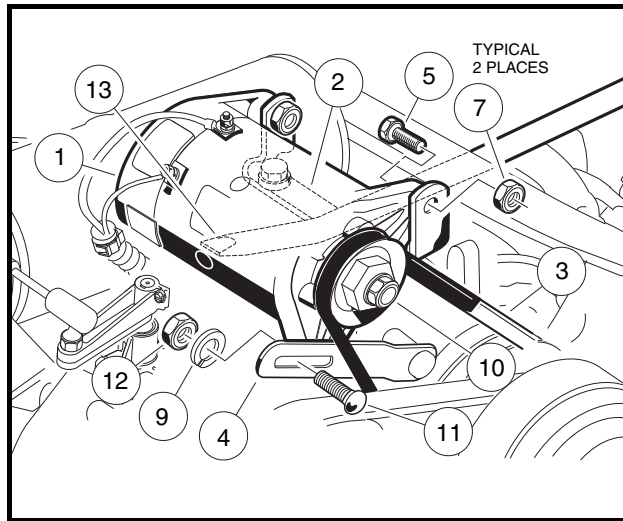

Figure 12-13 Starter/Generator Assembly
2. Install two 3/8-inch hex-head pivot bolts (5) into the mounting bracket with the heads of the bolts facing towards the driver side of the vehicle. Position the starter/generator in the mounting bracket so that the bolts will go through the starter/generator before going through the bracket. Install a locknut (7) onto each bolt and tighten to finger-tight (**Figure 12-13, Page 12-10**).
3. Install the adjustment bolt (11) through the adjusting bracket (4) and then through the starter/generator. Install a lockwasher (9) and 5/16-inch nut (12) onto the end of the adjustment bolt (11) and tighten to finger-tight (**Figure 12-13, Page 12-10**).
4. Install the belt (3), then tighten the mounting bolts. **See Belt Tension Adjustment on page 12-9.**
3. Make sure the two pivot bolts (5) on the mounting bracket, carriage bolt (11) and hex nut (12) are finger-tight (**Figure 12-13, Page 12-10**).
4. Push the starter/generator down to its lowest point of adjustment travel. With the starter/generator belt in place around the drive clutch pulley, install the starter/generator belt (3).
- Place a pry bar (13) between the top of the starter/generator mounting bracket (2) and the underside of the starter/generator, by passing the pry bar under the exhaust header.
- While maintaining the tension, tighten the adjustment nut (12) to 144 in-lb (16.3 N·m). Tighten the two pivot bolts (5) and hex nuts (7) to 23 ft-lb (31.2 N·m) (**Figure 12-13, Page 12-10**). **See following CAUTION.**